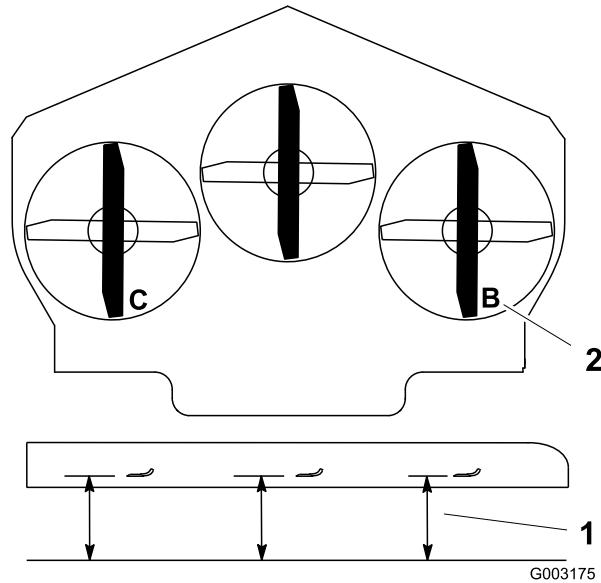

Figure 67
1. Position the right blade front-to-rear (Figure 67).
2. Measure the right blade at the **B** location, from a level surface to the cutting edge of the blade tip (Figure 67).
4. Position the left blade front-to-rear (Figure 67).
5. Measure the left blade at the **C** location (Figure 67), from a level surface to the cutting edge of the blade tip .